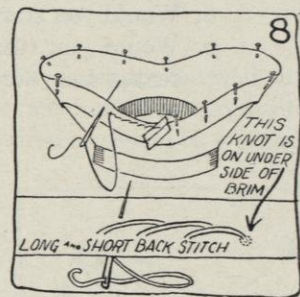

FIG. 8.
- (1) Sew bias to brim with an even row of $\frac{1}{2}$ -inch forward stitches and $\frac{1}{4}$ -inch back stitches. These stitches should be $\frac{1}{4}$ inch in from the edge of the brim (see Figure 8).